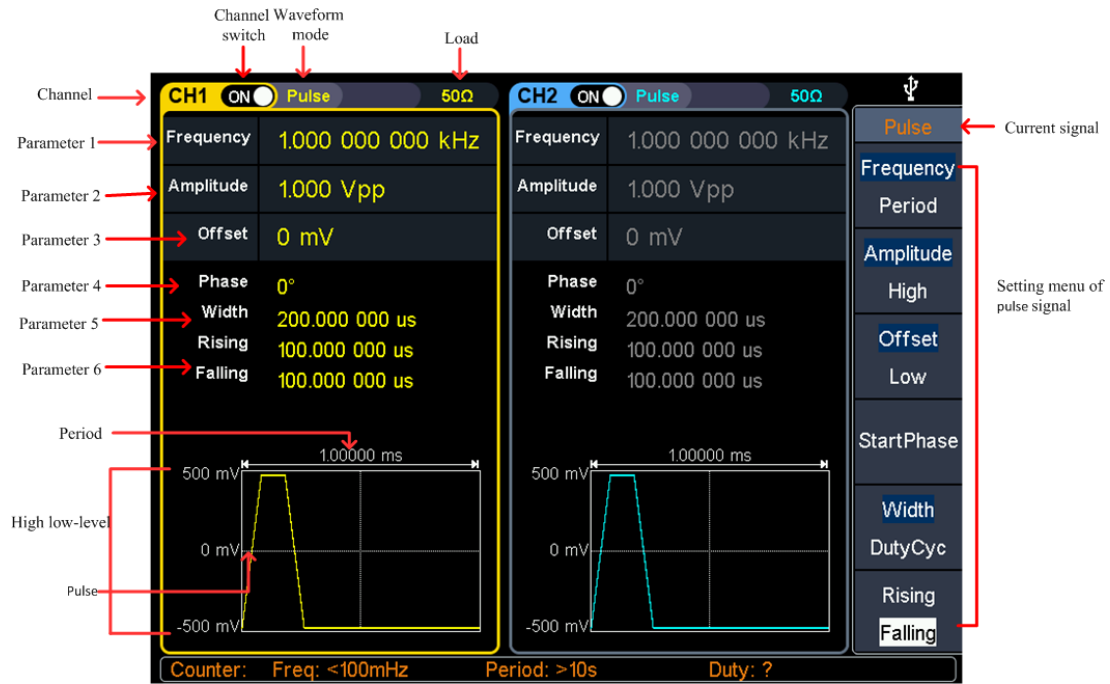

Figure 5-6: Pulse wave user interface
- (1) Press the **Symmetry** softkey to select the **Symmetry** menu item. Figure 5-6
- (2) Use the **knob** to change directly, the value in **parameter 1** of Figure 5-6; Or use the numeric keypad to enter the value, press the **%** or **Enter** key to
Press the **rise time/fall time** soft key to select the "rise time/fall time" menu item, as shown in Figure 5-6, parameter 6 shows the current value of the rise/fall time; press the **rise time/fall time** key to switch between the current display — parameter value. Set the **rise time/fall time** parameter value Use the **knob** or use the **numeric keypad** to enter the value, then select the desired unit from the right menu, press the desired unit (ks, s, ms, us, ns) or **Enter** the value; press the **X** soft key to delete the last digit, press the **←** soft key to cancel the input, press the **Enter** softkey to indicate the default input.